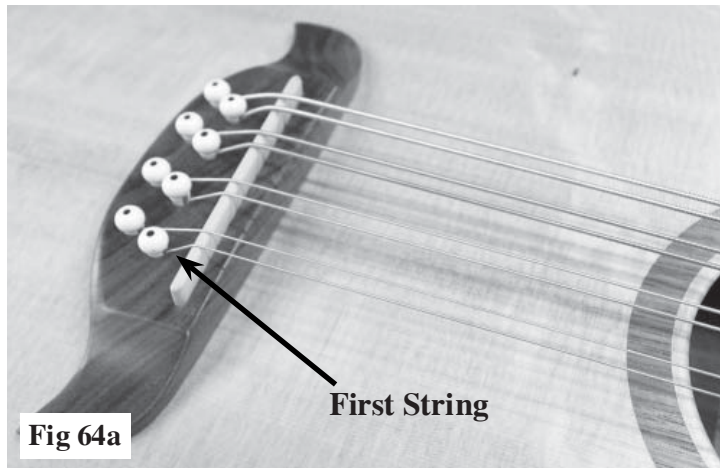

Fig 64a
64. Test-fit the first string on the instrument, pushing the "ball end" into the first hole in the bridge, followed by the bridge peg (fig 64a). Note that the pegs have a hollow side of the shaft large enough to accommodate the thick string.